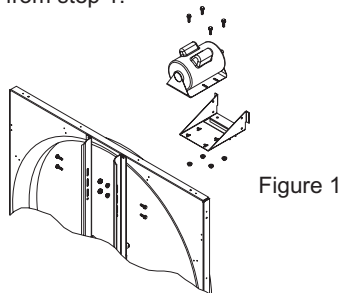

Figure 1
- Reinstall the motor base in the holes specified in Table 1. This plate should be located to the top of the fan as shown in Figure 1. Reuse the 5/16 inch bolts from step 3. Hand-tighten only at this time.
- Reinstall the motor to the motor base as shown in Figure 1. Reuse the bolts from step 1.